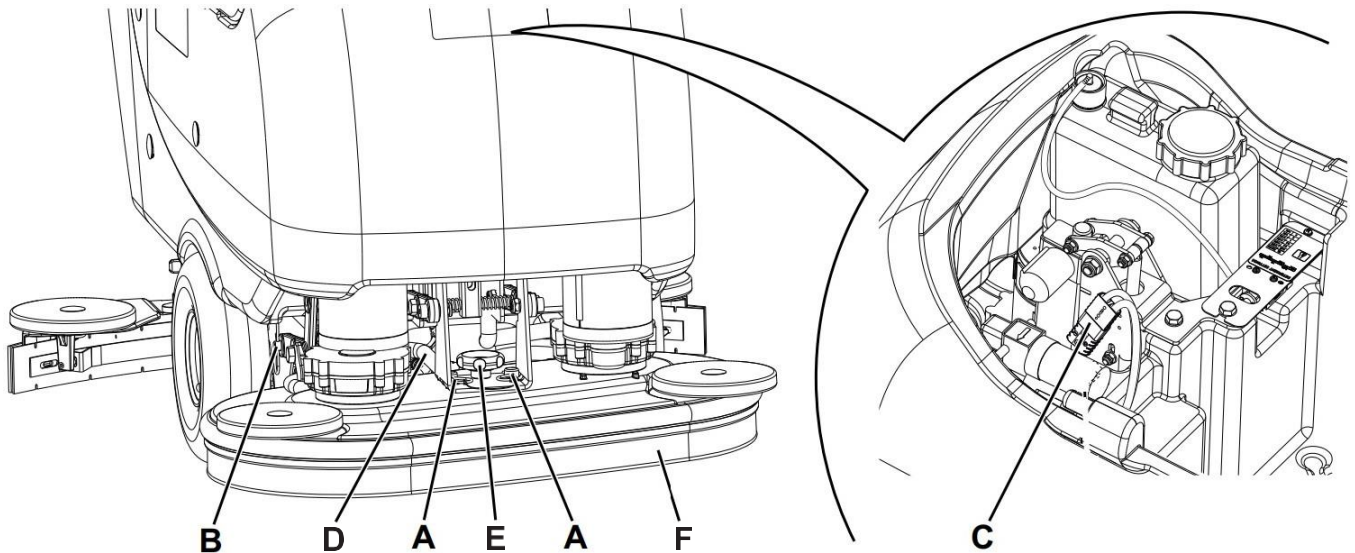

Figure 13
3. Turn on the machine by pressing the switch (66).
4. Lower the brush/pad-holder deck by pressing the switch (61).
5. Turn off the machine by pressing and holding the switch (66) for nearly a second.
6. Remove the safety pins (A, Fig. 13) and [for brush/pad-holder deck (18) only] the mounting pin (B).
7. Open the cover (22) and check that the recovery tank (21) is empty, otherwise empty it with the drain hose (16). Close the cover (22).
8. Grasp the handle (41) and carefully lift the tank (40) to reach the deck electrical connection.
9. Disconnect the red connector (C).
10. Disconnect the solution hose union (D).
11. Unscrew the mounting handwheel (E), then remove the brush/pad-holder deck (F).